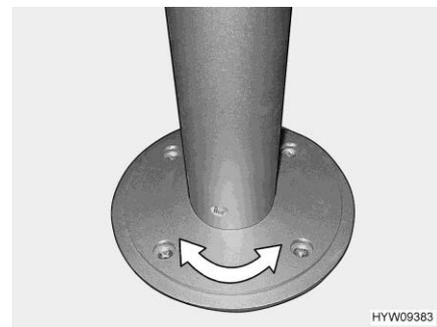

Fig. 85 Pillar table leg (rotatable)
- Rotate table top to the desired position. In order to do this, you need a little effort, because the table top rotates against the friction resistance on the pillar table leg (Fig. 85).